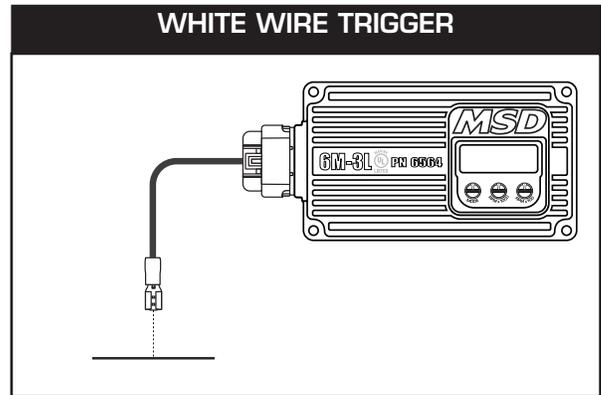

Figure 7 Checking for Spark with the White Wire.
5. Tap the White wire to ground several times (See Figure 7) . Each time you pull the wire from ground, a spark should jump from the coil wire to ground. If spark is present, the ignition is working properly. If there is no spark skip to step 6.